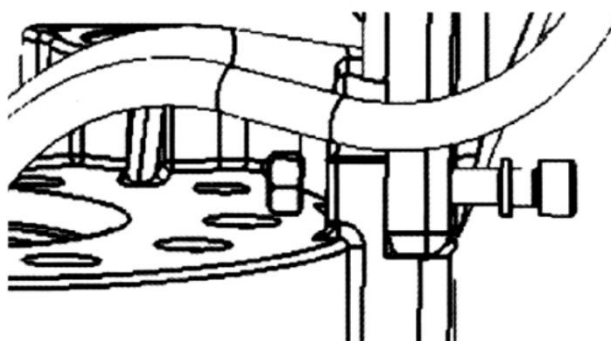

Figure 13 Tighten the bolt
- 5) Fix the tap selector to the bottom of the oil compartment with bolts: 6 pieces of M12 hexagon socket bolts (8mm wrench). Torque of bolt head, outer gasket and inner nut is 50 to 60N.m. (Figure 13)